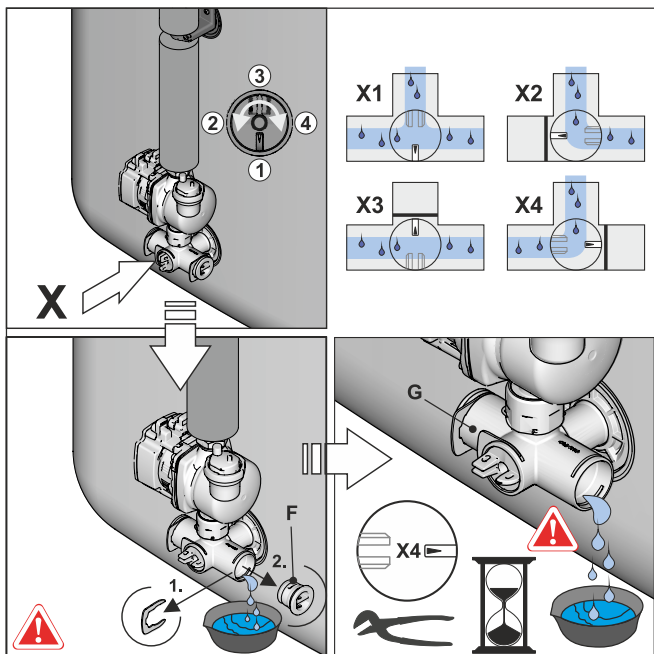

Fig. 9-5 Shut off the valve insert, remove the blind plug from the connection bracket
- 5 Adjust the valve insert on the connection bracket so that the path to the drain hose is open (see also Fig. 9-5) and drain the water content of the storage tank.